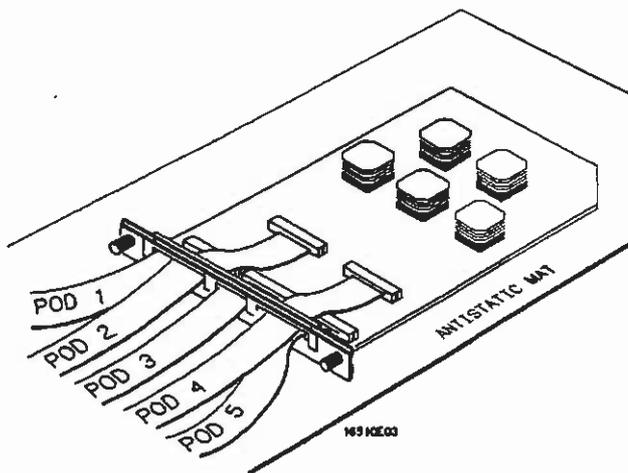

Figure A-2. Cable Position
- d. Lay the cable(s) flat and pointing out to the rear of the card. See figure A-2.